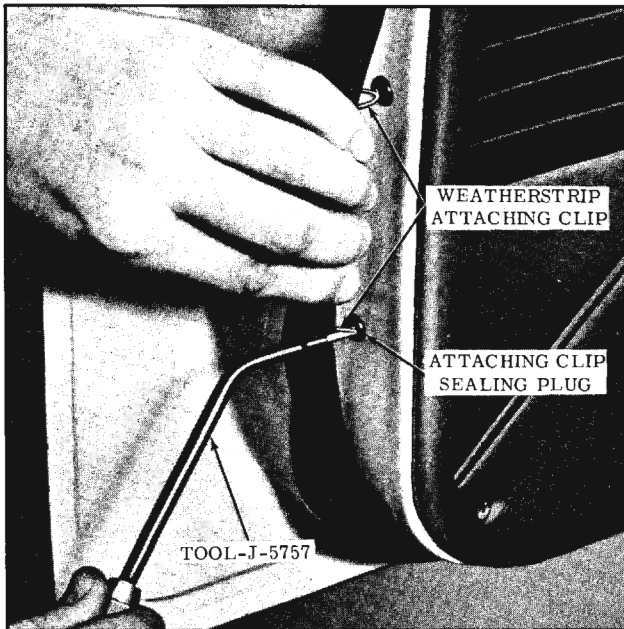

Fig. 16-39 Installing Weatherstrip Clip
4. Insert tip of tool J-5757 at retaining clip locations and carefully snap clips from sealing plugs. (Fig. 16-39)
4. Beginning at either front or rear section of door, install snap fasteners. Install weatherstrip attaching clips into their respective sealing plugs by placing notched end of tool J-5757 into loop of wire clip and pushing clip into sealing plug. (Fig. 16-39)
1. Insert tip of tool J-5757 at clip locations and carefully snap clips from sealing plugs. (Fig. 16-39)
5. Install weatherstrip into door upper frame by inserting tool J-5757 into loop of wire clips and pushing clips into their respective piercings. (Fig. 16-39)
7. Install weatherstrip into attaching clip sealing plugs by installing tool J-5757 into loop of wire clips and pushing clips into their respective plugs. (Fig. 16-39)